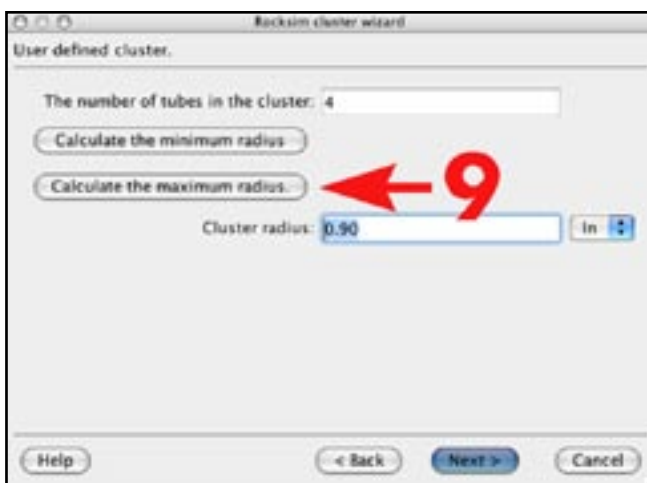

Figure 9
8. RockSim has eight different cluster patterns that are standard. It also will allow you to create a new pattern of your own specifications. This is the button that is circled in Figure 8. I'll go ahead and show you how it works. After clicking on it, you'll see a new screen shown in Figure 9.